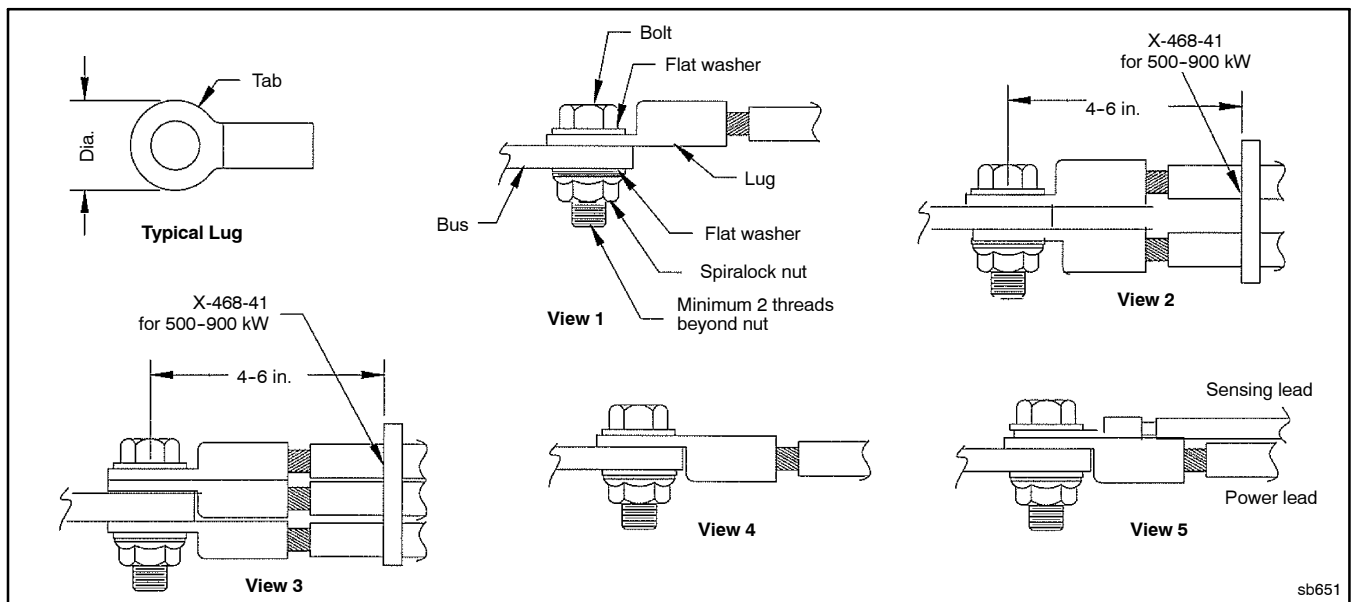
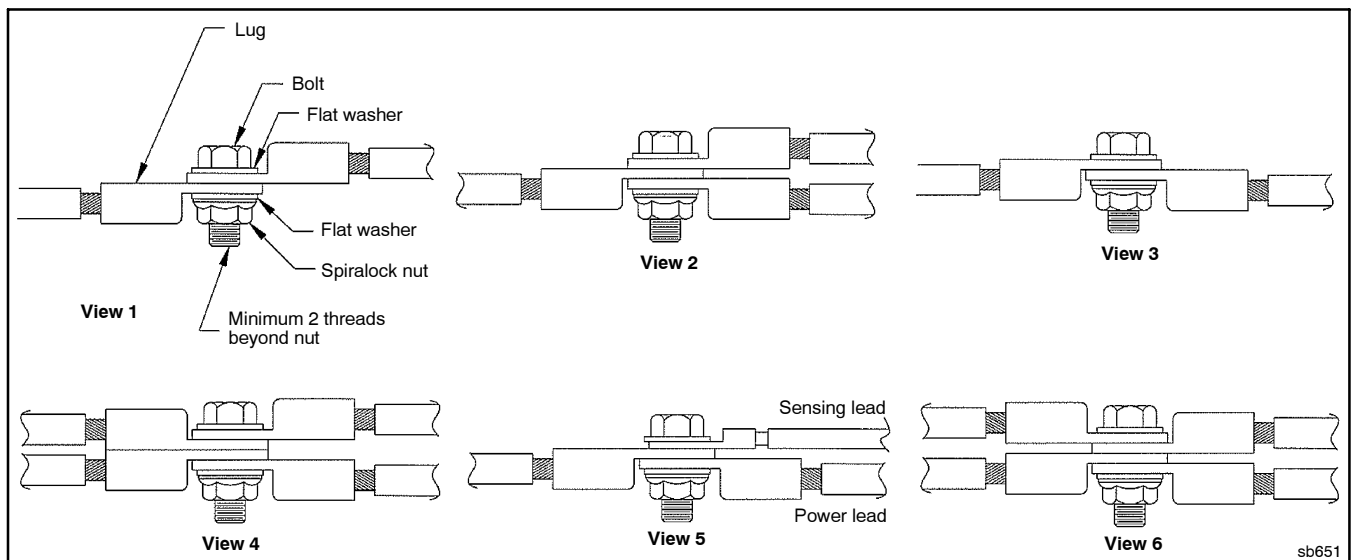

Figure 1 Lug-to-Bus Bar Termination
Figure 2 Lug-to-Lug Termination
4. Clean lead terminals and bus of paint/primer, grease, oil, or other foreign material. See Figure 1 for lug-to-bus bar termination. See Figure 2 for lug-to-lug termination.